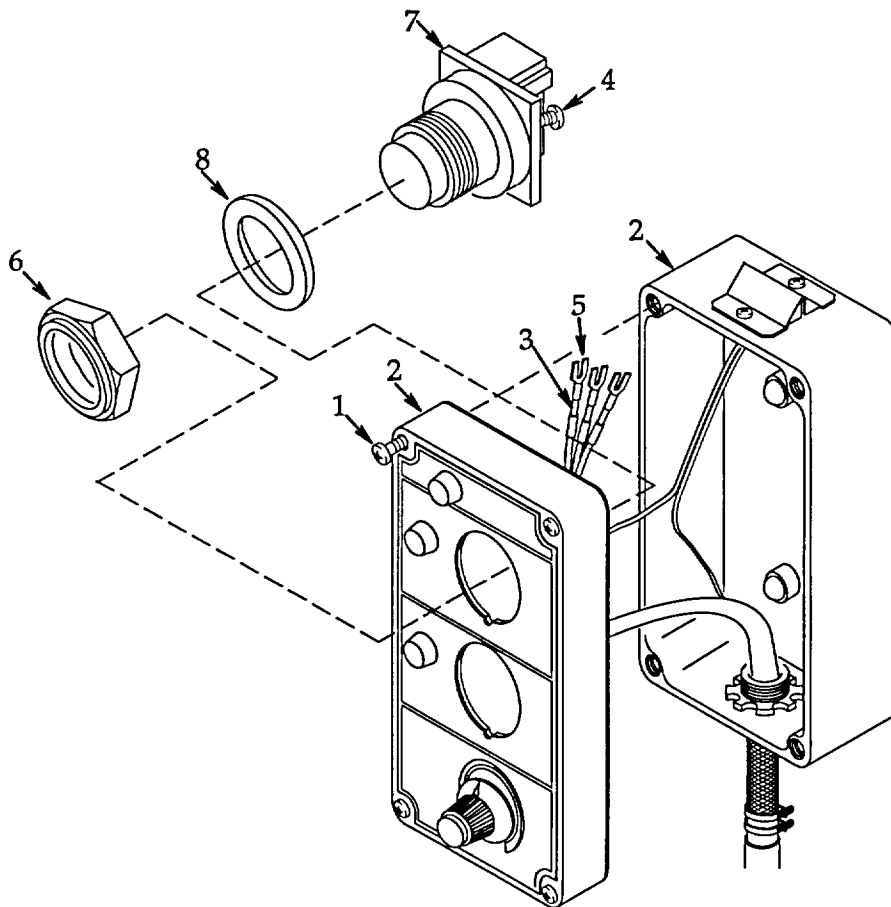

Figure 4-38. Push Button Switches (S1 & S2).
- a. **Removal.** See figure 4-38.
b. **Installation.** See figure 4-38.
- (1) Be sure sealing washer (8) is on push button switch (7) then install push button switch. Align anti-rotation key with notch in sealing washer and panel then secure using nut (6).